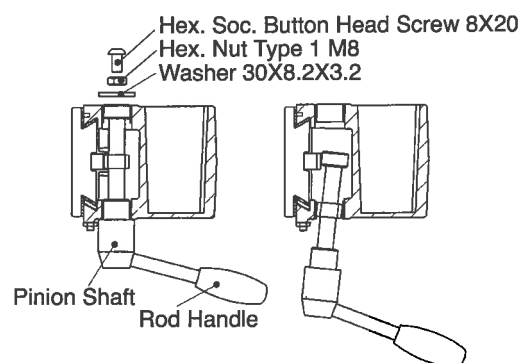

Fig. 15
- (1) Unscrew Hex. Soc. Button Head Screw 8x20 using Hex. Socket Screw Key 6 included in the accessories.
- (2) Pull out the Pinion Shaft Assy with Rod Handles as shown in the sketches in Fig. 15.